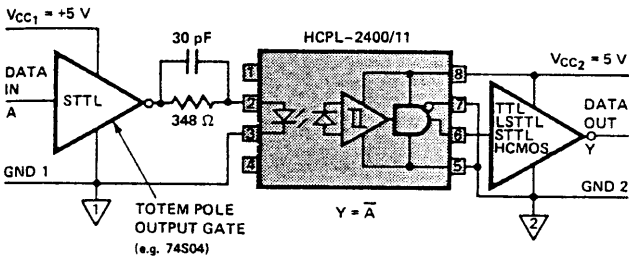

Figure 13. Recommended 20 MBd HCPL-2400/11 Interface Circuit
- This specification simulates the worst case operating conditions of the HCPL-2400/11 over the recommended operating temperature and V_{CC} range with the suggested applications circuit of Figure 13.
A recommended application circuit for high speed operation is shown in Figure 13. Due to the fast current switching capabilities of Schottky family TTL logic (74STTL), data rates of 20 MBd are achievable from 0 to 70°C. The 74S04 totem-pole driver sources current to series-drive the input of the HCPL-2400/11 optocoupler. The 348 Ω resistor limits the LED forward current. The 30 pF speed-up capacitor assists in the turn-on and turn-off of the LED, increasing the data rate capability of the circuit. On the output side, the following logic can be directly driven by the output of the HCPL-2400/11 since a pull-up resistor is not required. If desired, a non-inverting buffer may be substituted on either the input or the output side to change the circuit function from $Y = A$ to $Y = \bar{A}$. This circuit satisfies all recommended operating conditions.